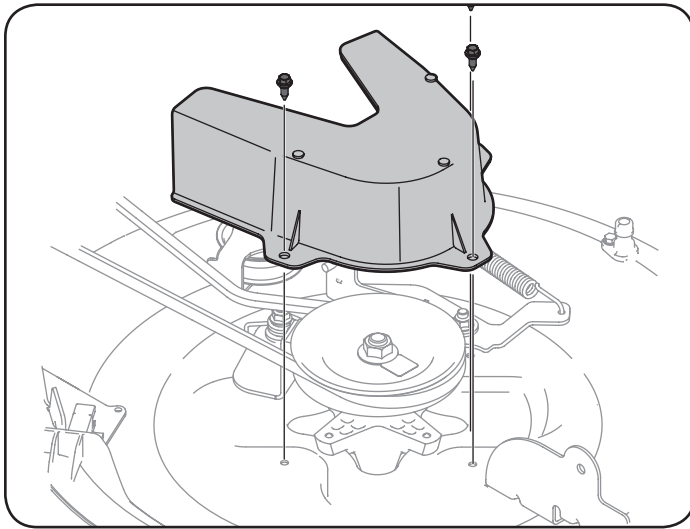

Figure 19
5. Remove the deck belt cover by removing the three hex bolts that secure it. See "Figure 19".